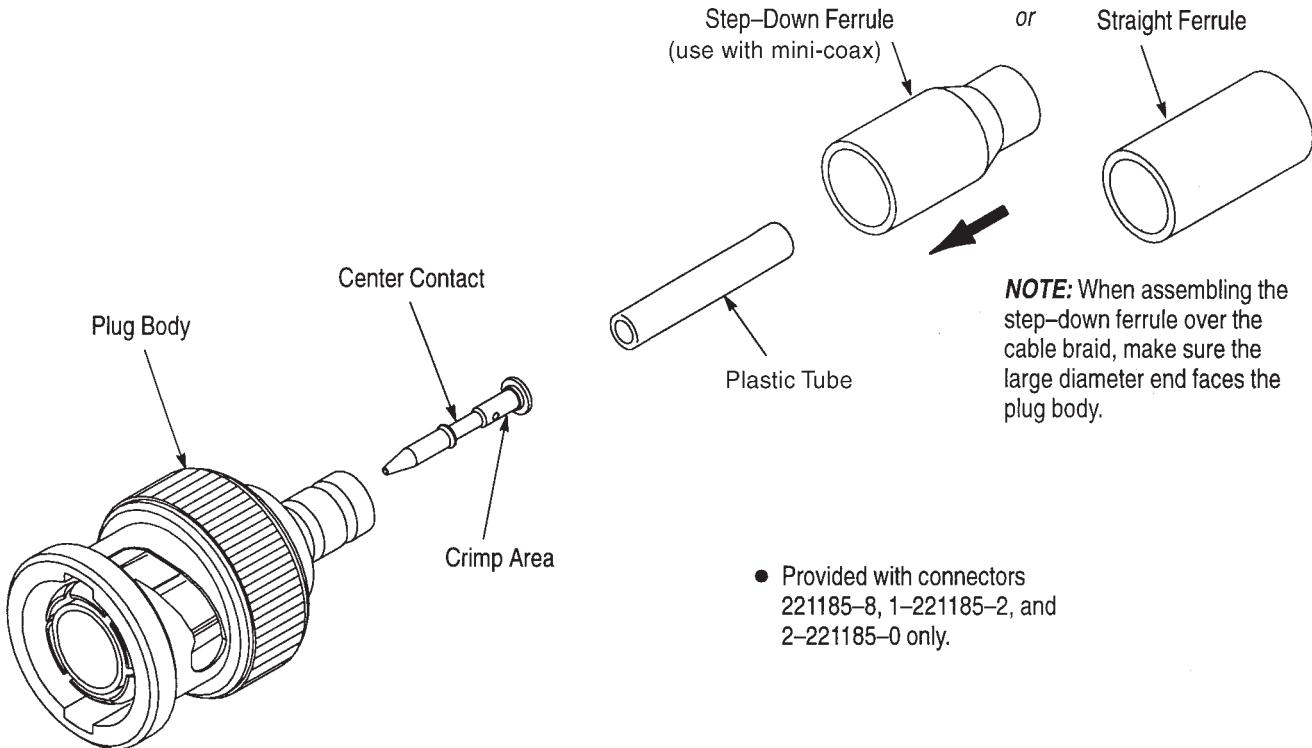

Figure 1
**NOTE:** When placing a 3-blade cassette in tool, use blade sets 1 and 2 first (see imprinted numbers on cassette). When using blade sets 3 and 4 in a 3-blade cassette, the "B" and "C" dimensions of the strip (Fig. 1) will be reversed from their proper order.
## 2. DESCRIPTION (Figure 1)